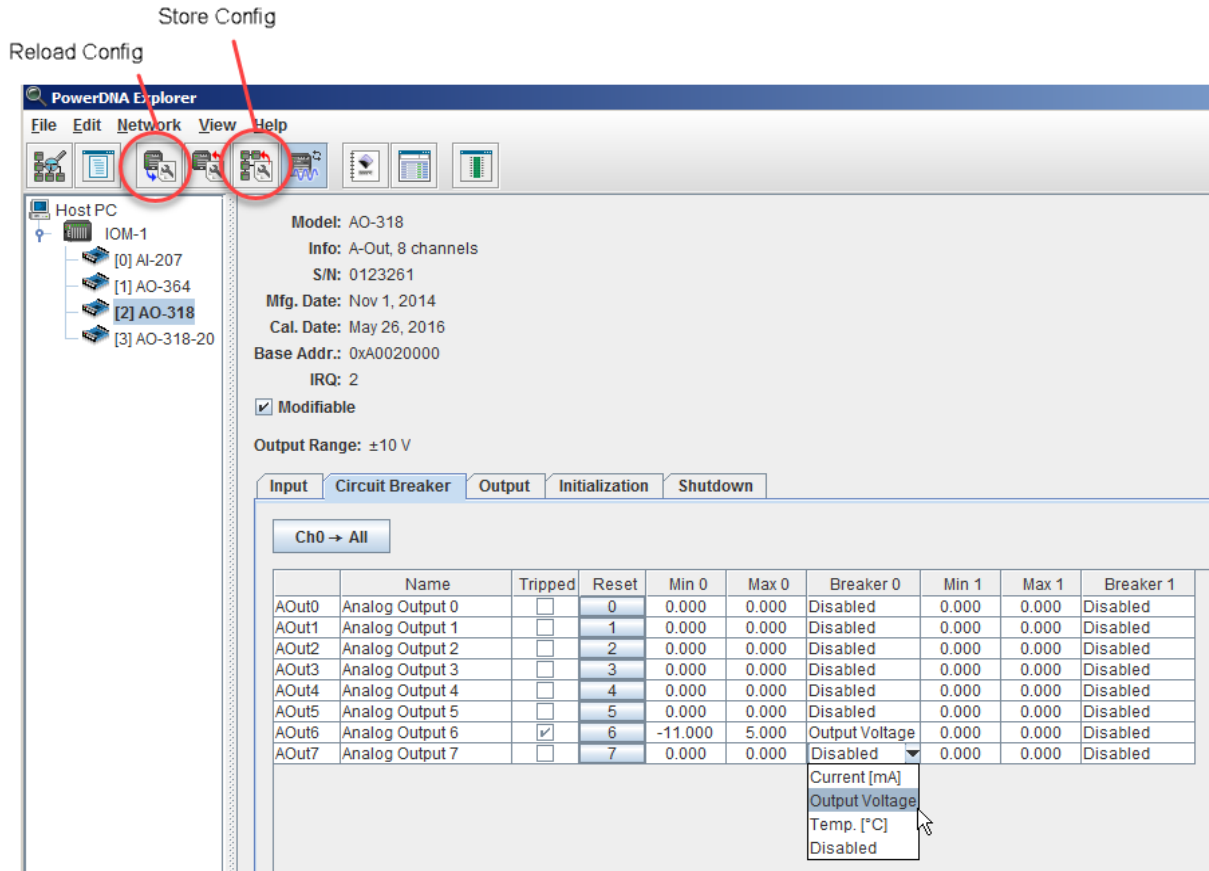

Figure 1-9 PowerDNA Explorer Circuit Breaker Panel for AO-318
- **Breaker X:** Enable/Disable Circuit Breaker X, and if enabled, choose measurement unit: Current in mA, Output Voltage in V, or Temperature in °C. (See **Figure 1-9**).